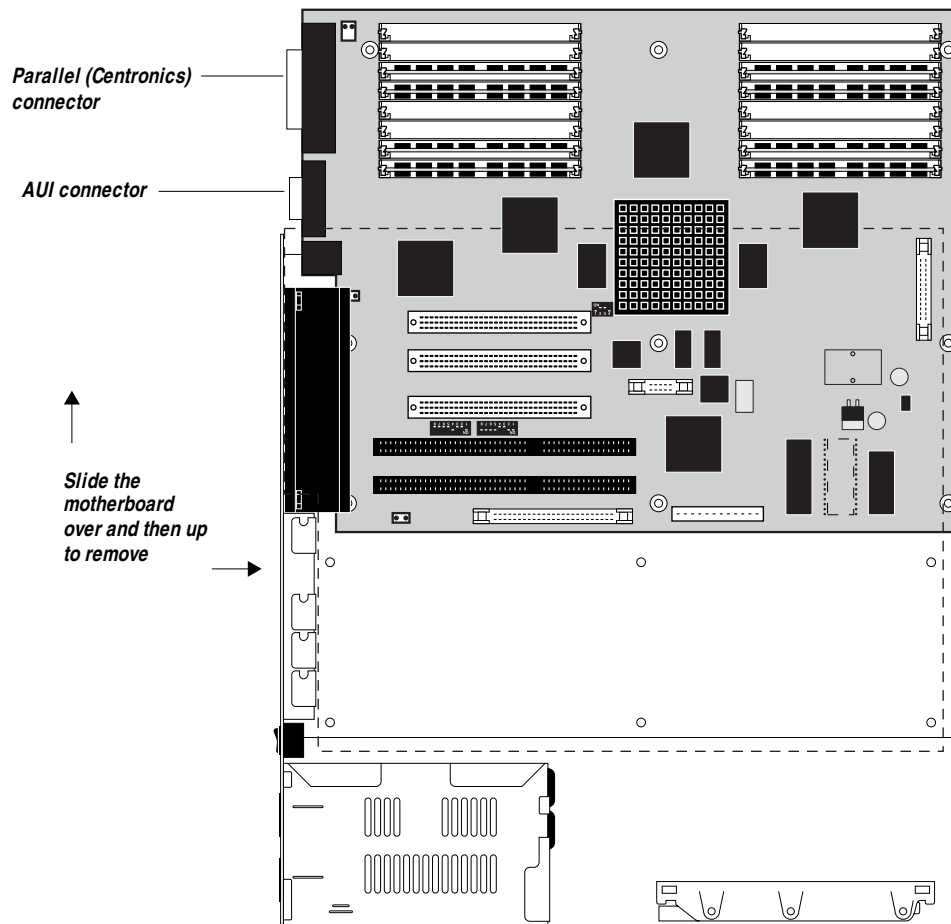

Figure 5-20 Removing the motherboard from the chassis
**7. Pull the motherboard out of the Fiery XJ BP100 chassis (see Figure 5-20).**